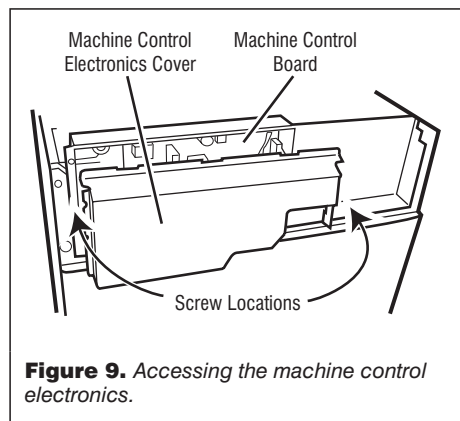

Figure 9. Accessing the machine control electronics.
5. Referring to figure 9, loosen the 4 screws for cover, then slide cover to the right and out from the machine control board.